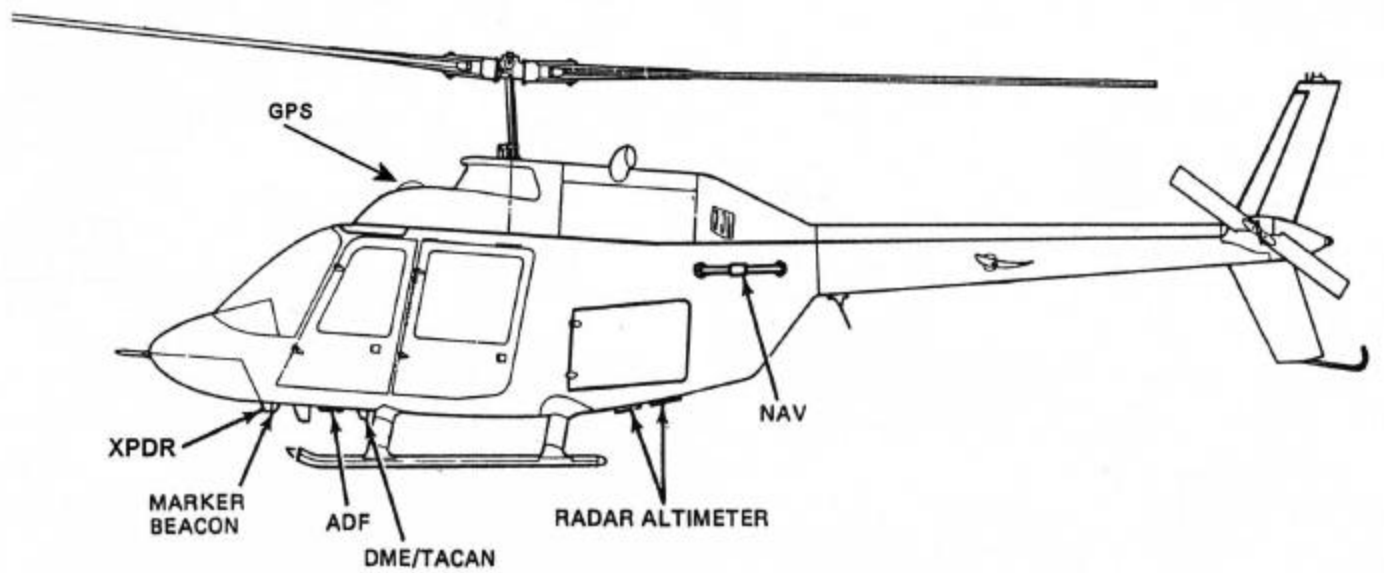

Figure 34-6. Antenna Location
2. Looking at the top of the receiver (Figure 34-6), ensure the front lobe of the holddown device is in a vertical position.
The KA-44B antenna (Figure 34-6) is an integral part of the ADF navigation system. It contains both the loop and sense antennas as well as an electronics package with active circuitry. The circuitry amplifies the antenna signals, then phase modulates them into a form that is readily demodulated into bearing information by the receiver.
2. Remove screws (1, Figure 34-6) from underside of antenna (2).
3. Lower antenna to gain access to the antenna cable connector (3). Disconnect connector.
2. While supporting antenna (2, Figure 34-6) beneath helicopter, connect antenna cable connector (3).
3. Align and install antenna. Secure with screws (1).